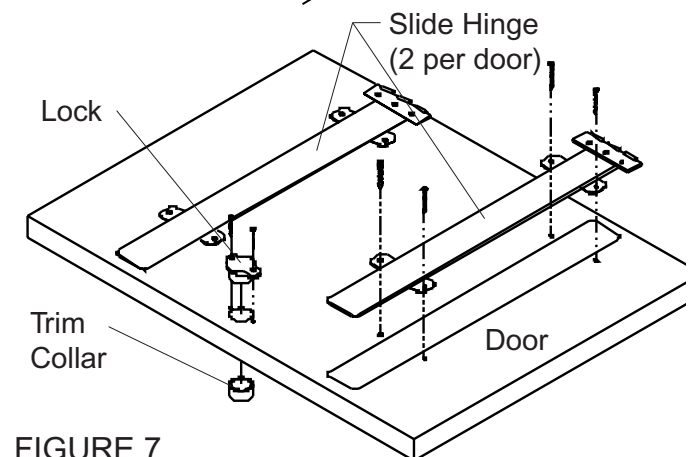

FIGURE 7
13. Lay door back side up and attach (2) slide hinges per door back with (4) #8 x 5/8" flat head screws per hinge. (Figure 7) Rollers should be toward the top of the door.
14. Attach keyed lock from back side of door with (2) #10 x 5/8" screws. Add trim collar from front side of door. (Figure 7)